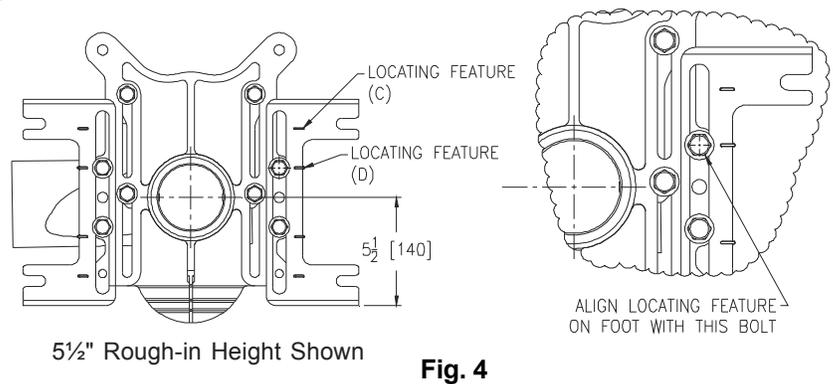

Fig. 4
4. Factory faceplate/feet assembly is set for a 5 1/2" rough-in height. Locating featuring C (See Fig. 4) on each foot identifies at 7 1/2" rough-in height, commonly used for ADA applications. To adjust the rough-in height, loosen the feet bolts and set the top two bolts to the desired height (adding additional height for tiling where required). For the highest position, swap bolts from A to B location. See Fig. 4a. Secure bolts using wrench (25-35 lb-ft of torque).